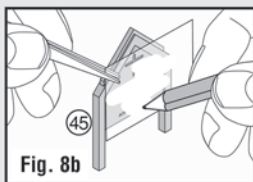

Fig. 8b
- Grasp edge of Decal with tweezers and avoid handling the back. Position on Front Sign (45) and rub over entire Decal area with a burnisher or dull pencil (Fig. 8b).